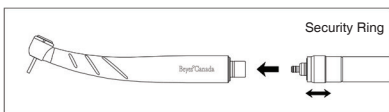

Fig.2
**Ez-Swivel QD Coupling (Fig.2)**